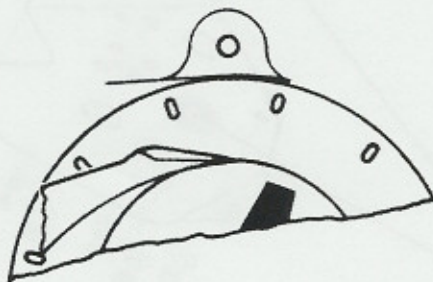

Figure 4-3
- 2) Hold knife blade assembly to the top of the shelf wheel lightly. See Figure 4-3.